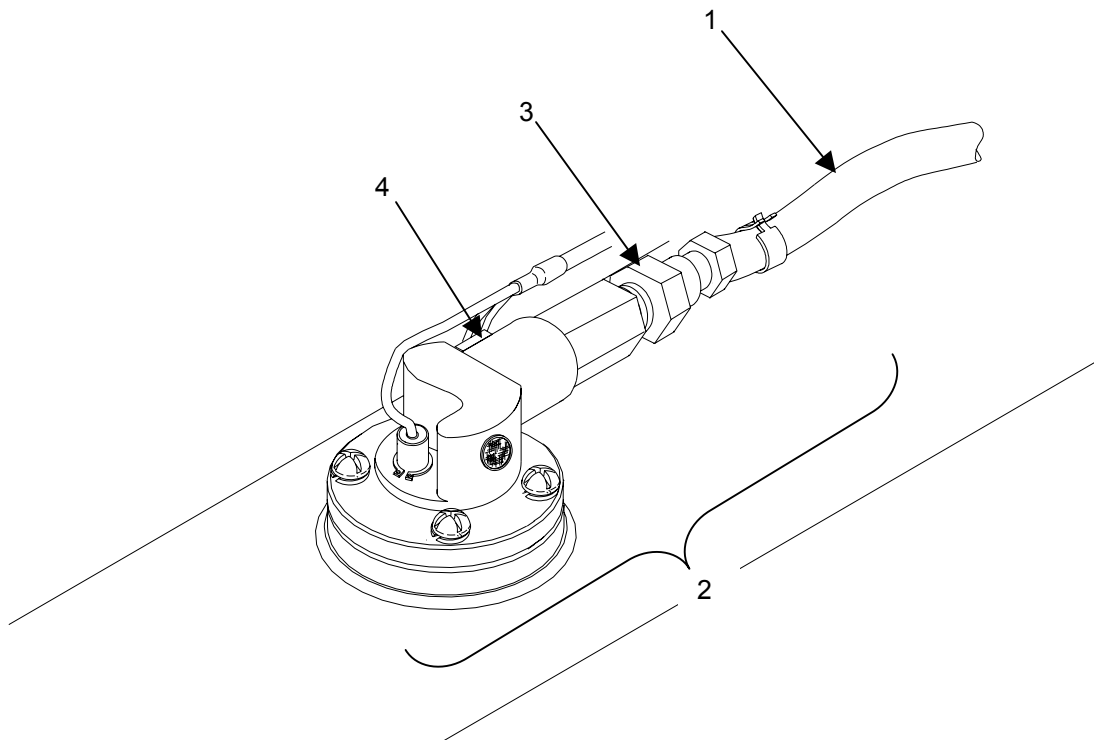
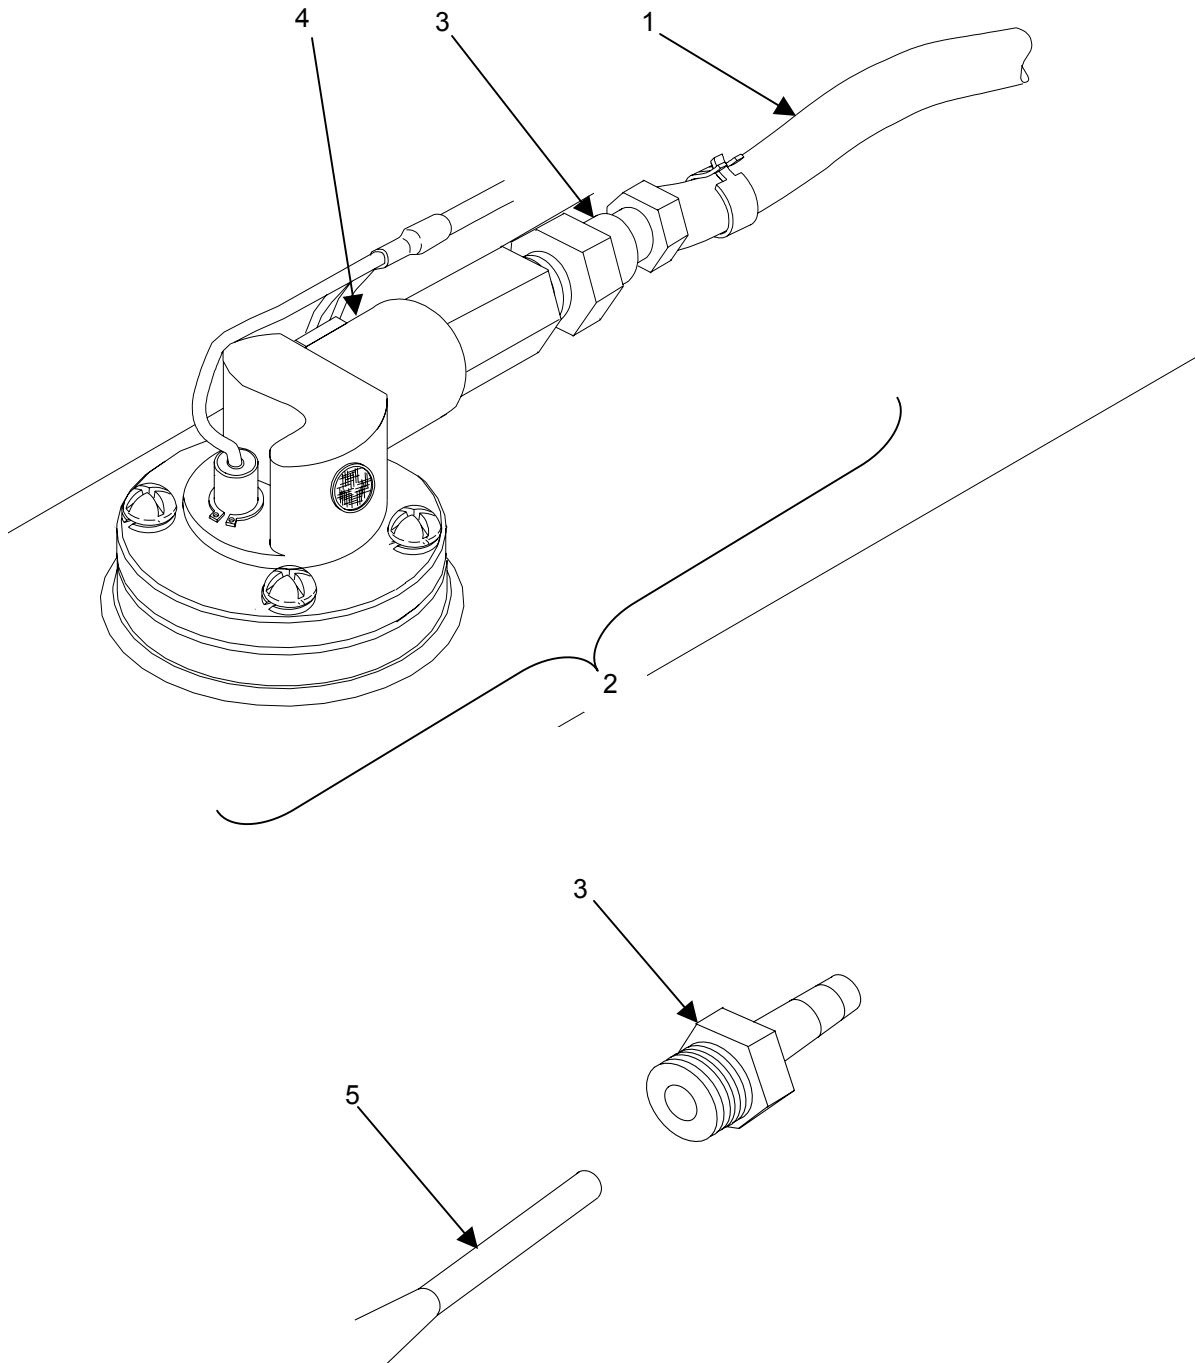

Figure 3. Test the Check Valve - Continued
Figure 4. Service The Check Valve
5. Remove the air line that is connected to the check valve on the vent valve assembly. (**figure 3, item 1**).
6. Remove the check valve (**figure 3, item 3**) by holding the solenoid (**figure 3, item 4**) with a 9/16-inch wrench while turning the check valve with a 9/16-inch wrench. Be careful not to turn the fitting on the solenoid valve.
9. Remove the check valve (**figure 3, item 3**) from the airline (**figure 3, item 1**).
10. Install the check valve (**figure 3, item 3**) by holding the solenoid (**figure 3, item 4**) with a $\frac{9}{16}$ -inch wrench and turning the check valve with a $\frac{9}{16}$ -inch wrench. Be careful not to turn the fitting on the solenoid valve.
11. Connect the airline (**figure 3, item 1**) to the barb fitting on the vent valve assembly (**figure 3, item 2**).
3. Locate the plunger on the inside of the check valve (**figure 4, item 3**). Use a pin punch (**figure 3, item 5**) to gently push the plunger in from the threaded side of the check valve. If it is stuck, it should take slight pressure to get it to move in freely. The plunger is spring loaded and should return to the closed position automatically.
5. Install the check valve (**figure 3, item 3**) by holding the solenoid (**figure 3, item 4**) with a $\frac{9}{16}$ -inch wrench and turning the check valve with a $\frac{9}{16}$ -inch wrench. Be careful not to turn the fitting on the solenoid valve.
6. Connect the airline (**figure 3, item 1**) to the barb fitting on the vent valve assembly (**figure 3, item 2**).